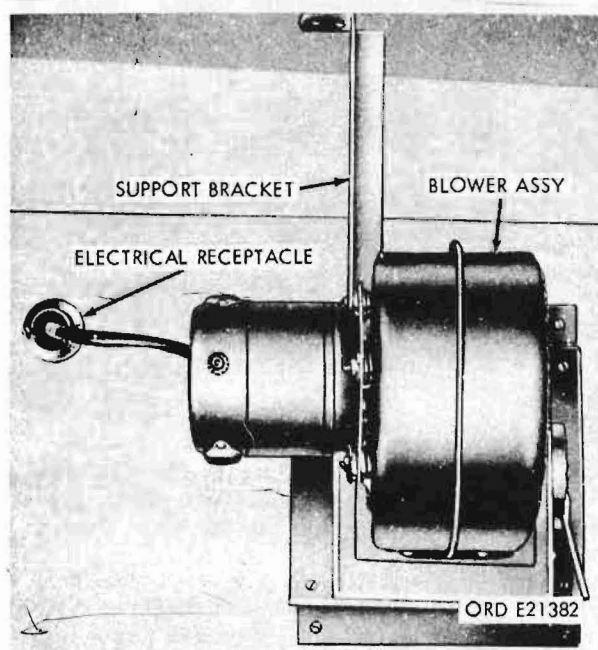

Figure 134. Shop van body exhaust blower assembly
g. Exhaust Blower Assembly. The exhaust blower assembly (fig. 134), consists of a 24-volt dc motor with a wheel mounted on the motor shaft. The exhaust blower is mounted inside the body on the exhaust blower duct assembly; it provides ventilation of the body when the doors and windows are closed.